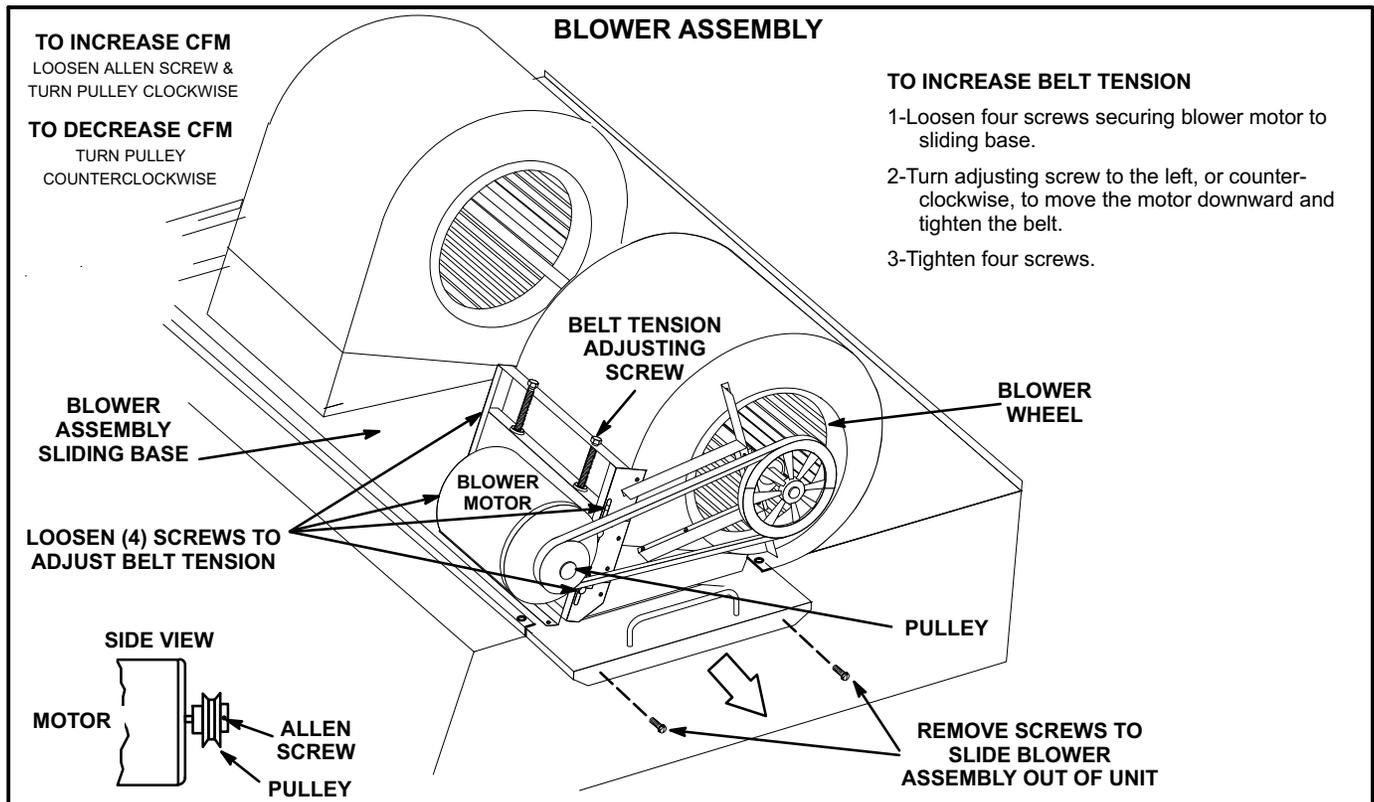

FIGURE 7
The blower assembly is secured to a sliding base which allows the entire assembly to be pulled out of the unit. See figure 7.
- 4- The blower RPM can be adjusted at the motor pulley. Loosen Allen screw and turn adjustable pulley clockwise to increase RPM. Turn counterclockwise to decrease RPM. See figure 7. Tighten Allen screw after adjusting. Do not exceed minimum and maximum number of pulley turns as shown in table 2.
- 1- Loosen four bolts securing motor base to mounting frame. See figure 7.